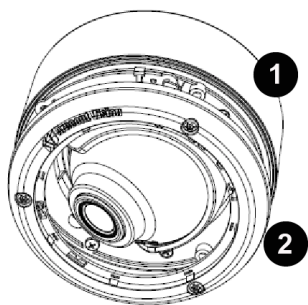

Figure 4: Remove three (3) machine screws and remove the in-ceiling mount from the surface mount housing
2. Loosen the three (3) captive fasteners securing the dome cover. Remove the dome cover but do not remove the screws from the dome cover.
3. Loosen the three machine screws with user-supplied #2 Phillips head screwdriver and remove the in-ceiling mount housing from the surface mount housing (see Figure 4). Set surface mount housing aside for future use.